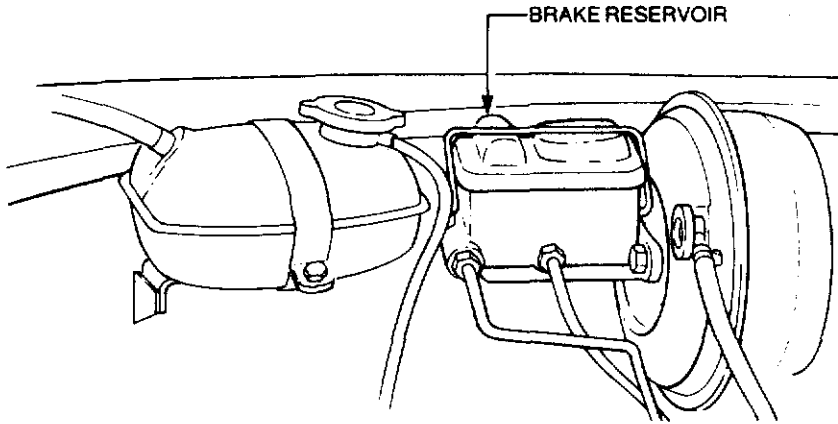

Figure 3-16 Brake reservoir
**342.** Check the fluid level in the brake reservoir against the level marked on the reservoir. If necessary, remove the reservoir top and top-up with clean brake fluid OX (Aust) 8. See Fig. 3-16 for reservoir location.